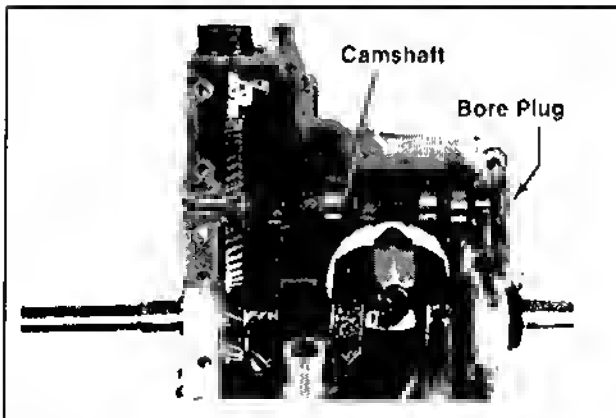

Figure 9-33. Removing The Camshaft and Camshaft Bore Plug.
1. Remove the camshaft and camshaft bore plug from the #1 crankcase side. Refer to Figure 9-33.